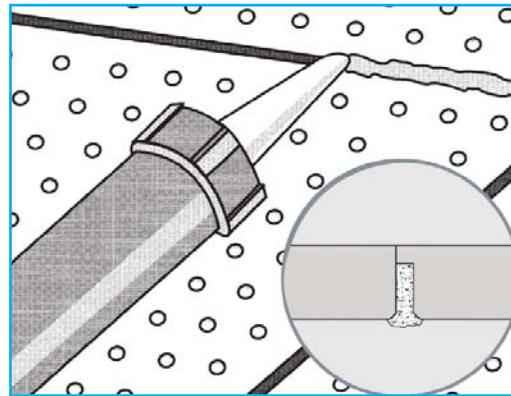

FIGURE 9 Joint Filling (with Uniflott)
- Fill joints fully with Uniflott using a caulking gun. *[Figure 9]*